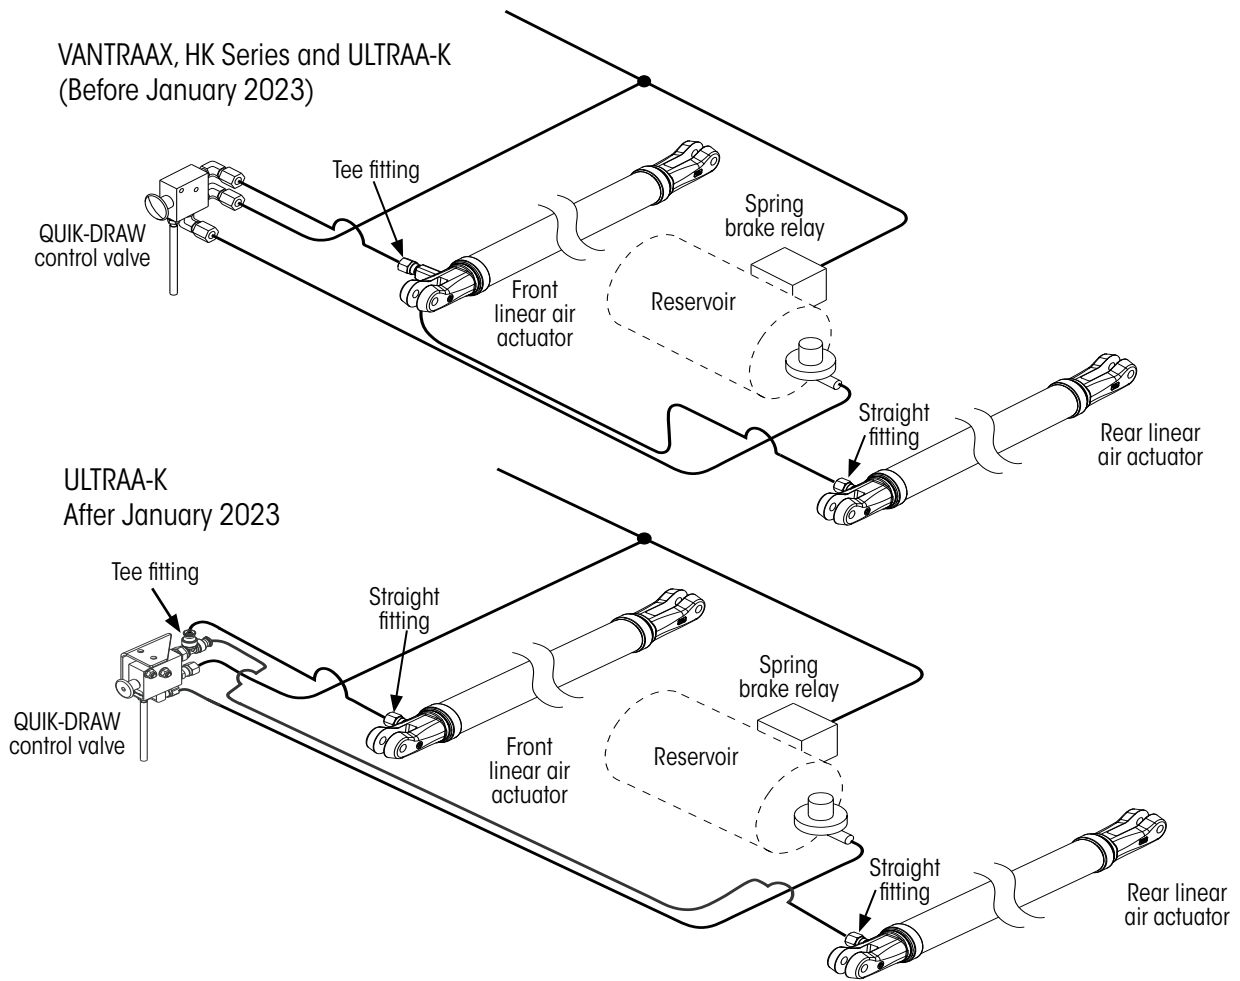
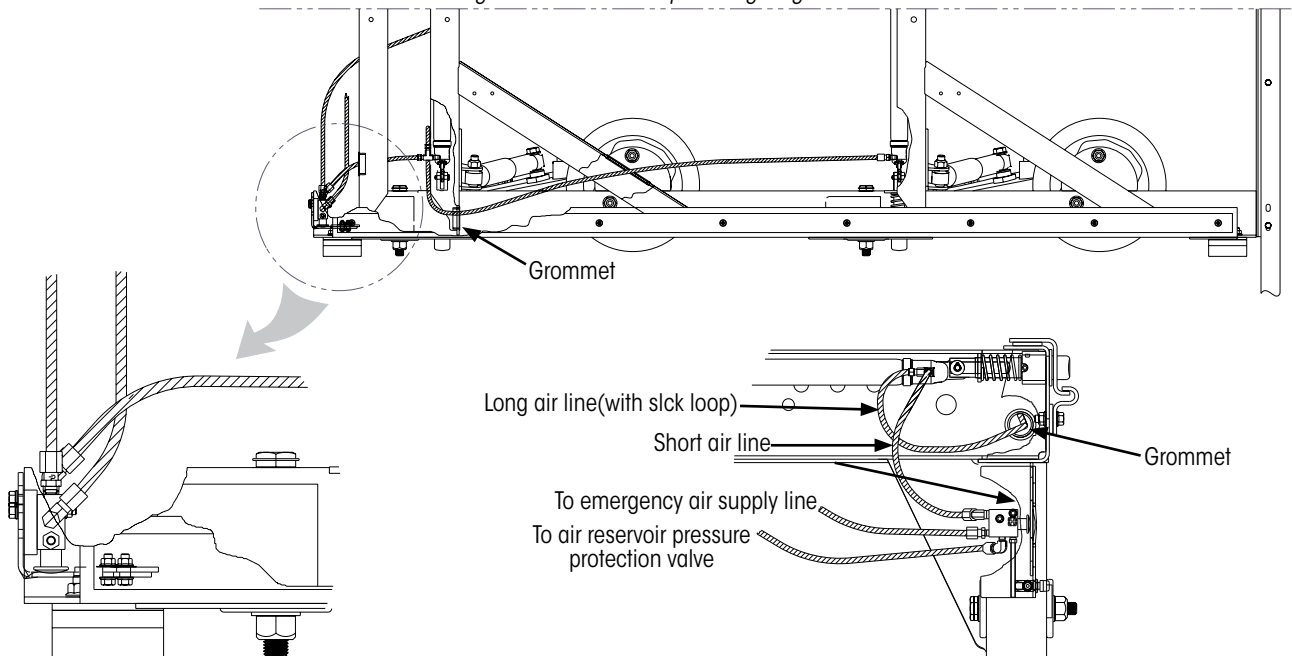

Figure 14: QUIK-DRAW plumbing diagram
Figure 15: Air line installation for van applications (VANTRAA, HK series and ULTRAA-K before January 2023)
1. Mark, label or otherwise identify air lines (Figure 8, Figure 15 or 16 on page 11) with corresponding fittings on QUIK-DRAW control valve before disconnecting.
2. **Check** for proper actuator orientation (Figure 14 on page 11, rear actuator has a straight fitting, front actuator has a tee fitting).
3. **Install** air lines (Figure 14 on page 11), beam clip assembly, air line looms and grommets as shown in Figure 15 on page 11.